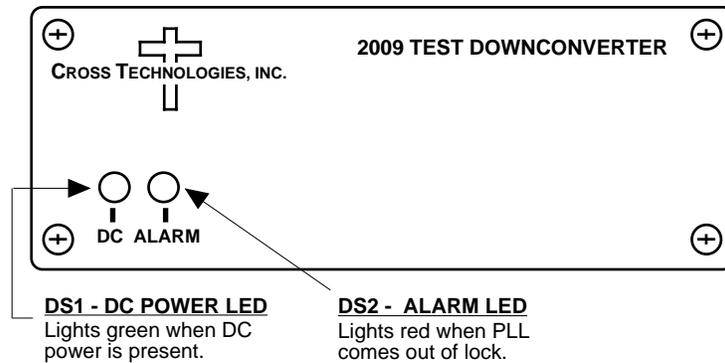

FIGURE 2.2 Model 2009-138 Front Panel Indicators
Figure 2.2 shows front panel indicators.
4. Be sure DS1 (green, DC Power) is on and DS2 (red, Alarm) is off (Figure 2.2).